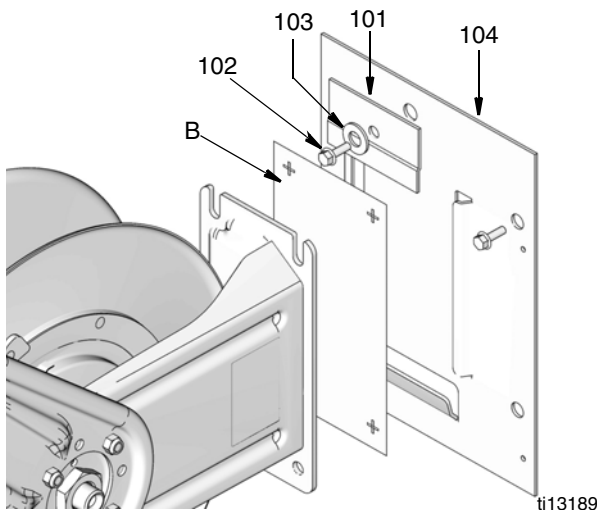

FIG. 10
2. Select the reel bank mounting location. Mount the reel to a wall, using the provided template (B) for laying out the holes you drill.
You can mount the base plate (104) to the wall for easier installation and removal of the hose reel for servicing (FIG. 10).
3. Slide hose reel onto the base plate (104) and install the hold-down plate (101), washer (103) and cap screw (102). Tighten the screw firmly (FIG. 10).